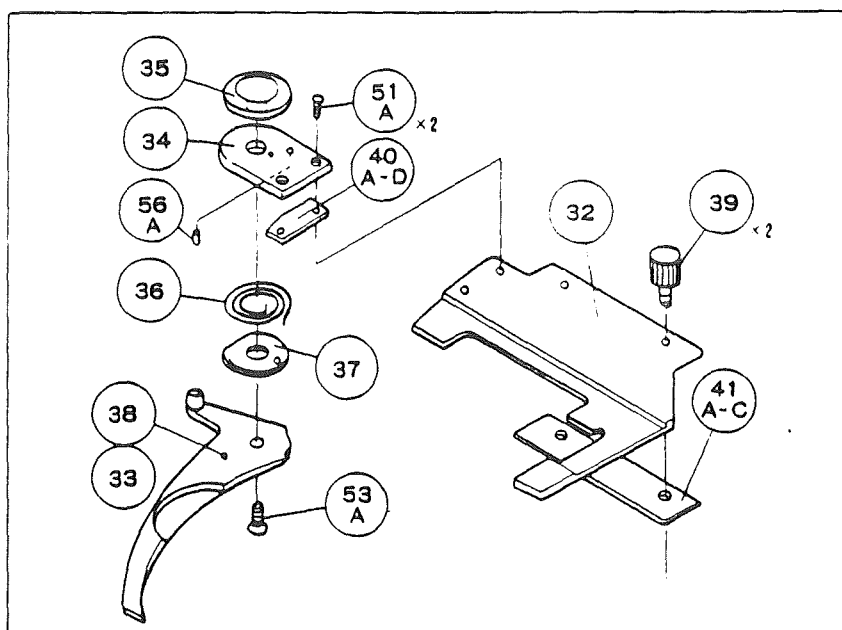

Fig. 2
- 3) Removing the screws 53A separate the slide glass retainer 33 together with the washer 37 and the spiral spring 36 from the holder metal 34. (Fig. 2)